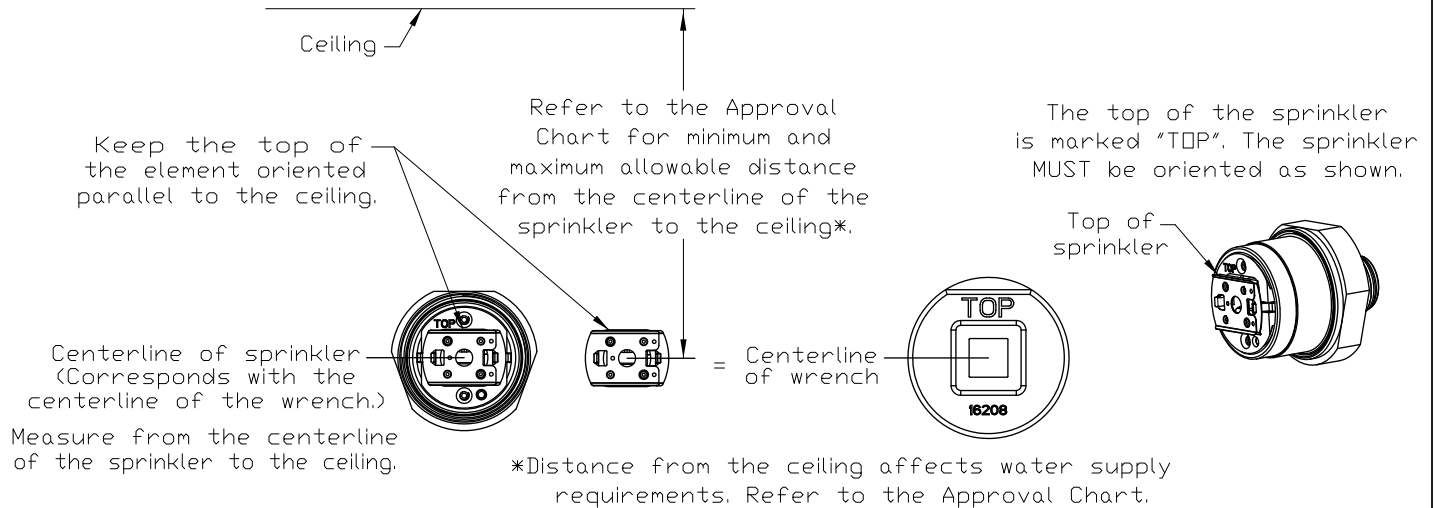

Figure 3: Sprinkler VK480 Correct Deflector Orientation
- THE TOP OF THE SPRINKLER BODY AND THE TOP OF THE INSTALLATION WRENCH ARE MARKED "TOP".** Orient the top of the sprinkler element parallel with the ceiling as shown in Figure 3.